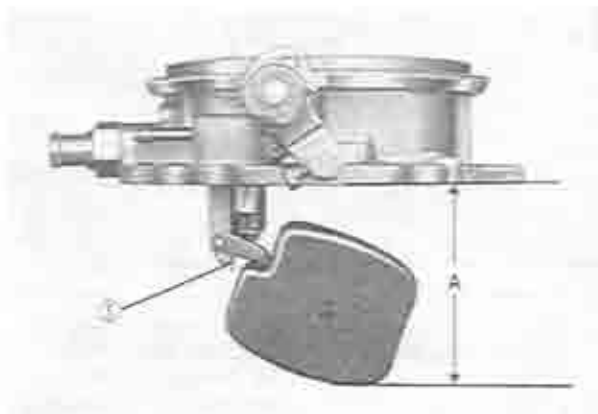

Fig. 4-8 Float level adjustment
Adjust the maximum fuel quantity coming in through the needle valve by bending the float seat lip so that the distance (A) between the lowest part of the float and the lower face of the air horn is 55 – 56 mm (2.1 – 2.2 in), as shown in Fig. 4-8.